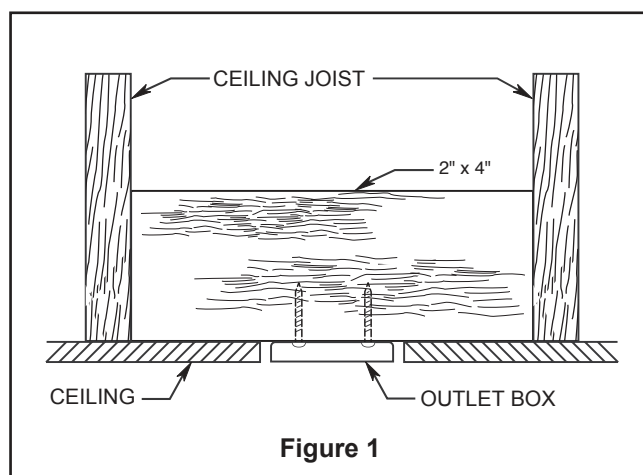
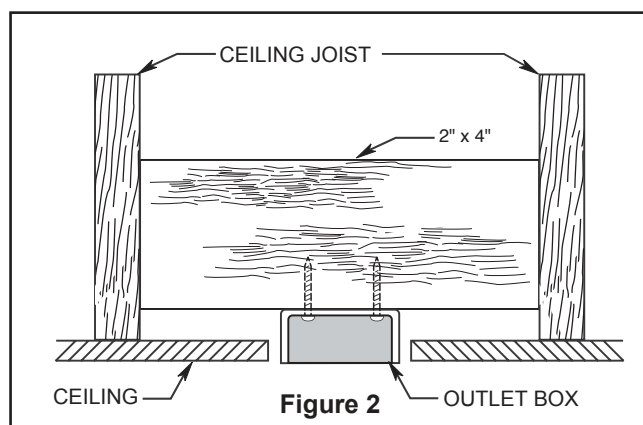
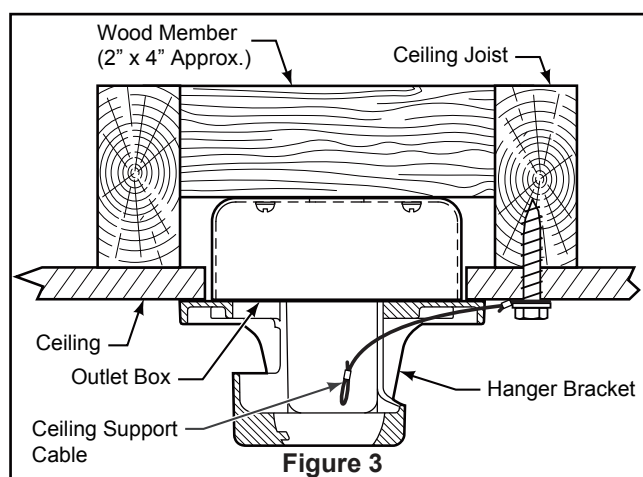

Figure 1
Figure 2
Figure 3
Your new ceiling fan will require a grounded electrical supply line of 120 volts AC, 60 HZ, 15 Amp Circuit. Electrical code requires use of a fan-rated outlet box to support the extra weight and motion associated with a ceiling fan. A fan-rated box will be labeled as such and typically supports up to a 70lbs ceiling fan. Fan-Rated Outlet Boxes vary in ratings and design. Ensure the ratings of your ceiling fan outlet box meet the requirements for the ceiling fan being installed. Figure 1, Figure 2 and Figure 3 depicts different structural configurations that may be used for mounting the outlet box.
### Low profile box (Figure 1)
### Deep box (Figure 2)
### Deep box with brace (Figure 3)
3. Remove the six preassembled screws of the motor coupler washer from the motor assembly, then retain the screws for Step 7. (Figure 3)
3. Route the black, white and blue wires and safety cable through the downrod. (Figure 3)
1. Securely attach the hanger bracket to the outlet box using the outlet box screws and washers supplied with the outlet box. (Figure 3)
2. Drill a 1/4" pilot hole into the building structure to prevent splitting or cracking with installation of the lag bolt. Using the 3/8" x 2" lag bolt and flat washer, attach safety cable to ceiling joist or wood structural member. The lag bolt will pass through the flat washer, safety cable loop, and into the building structure. (Figure 3) **NOTE:** Ceiling support cable cannot be secured to outlet box only, it must be directly secured to ceiling joist or structural member using the 3/8" x 2" lag bolt and flat washer. (Figure 3)
2. Slide the receiver into the hanger bracket before wiring as shown in figure 3.
- 3.** Assemble the LED assembly to the light plate assembly using the two key slots and replace the third screw and securely tighten all three screws. (Figure 3)
- 3. To make fan operational, install 23A/12V battery (included) in hand-held remote transmitter, with fan power off. Then follow the remote code setting process. (If not used for long periods of time, remove battery to prevent damage to transmitter). Store the remote away from excessive heat or humidity. (Figure 3)